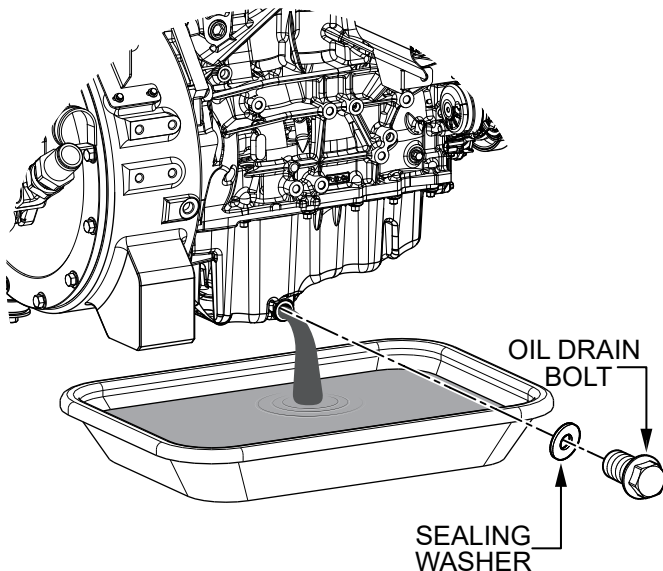

Figure 60. Engine Oil Replacement
- Remove the oil drain bolt and sealing washer (Figure 60). Allow the oil to drain into a suitable container.